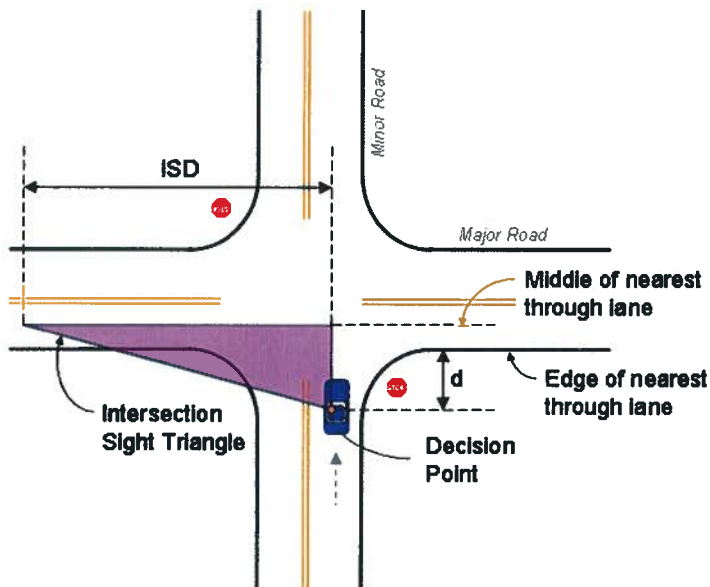

Figure 1. Left turners looking left
- B. **Two-way stop control:** The sight triangles for a stop controlled minor road with left turns allowed shall be based on Figures 1 & 2 and Tables 1 & 2. The left turning movement requires a longer intersection sight distance than the right turning movement; therefore, the criteria for the left turn conditions apply.
- A. Signals with off peak or night time flash operations shall follow the criteria for two-way stop sign control on the red flashing approaches (Figures 1 & 2 and Tables 1 & 2).